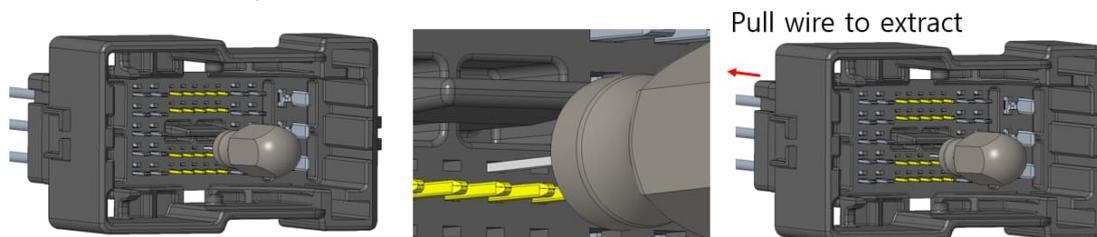

Fig. 8
(1) Confirm TPA are in Pre-Lock condition. In case of Final Lock condition, it is necessary to move it to Pre-Lock condition. It is impossible to extract the contacts under Final Lock condition.
(2) Extract the contact with specified tool inserted into proper hole until stopped at bottom end. (see Fig. 8) (It makes operation easier to press the contact to insertion direction once.)